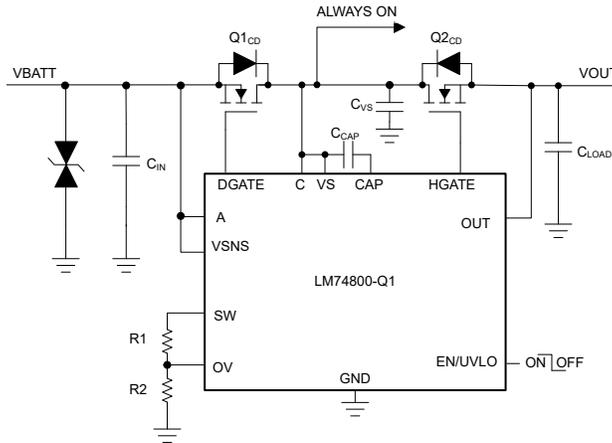

Figure 2. Common Drain Topology
LM74800-Q1 can drive FETs in two configurations: common drain (CD) and common source (CS). In CD topology, the drain terminals of both FETs are connected together as Figure 2 shows. When the LM74800-Q1 is in shutdown mode, the CD node can power critical always on loads through the body diode of Q1CD. When a reverse voltage is applied at the input, Q1CD turns off immediately, protects the CD node and loads at the output from being subjected to negative voltage. Since the CD node is always powered when the input voltage is positive, the VS pin can be directly connected to the CD node making the connections simple. The tradeoff for CD topology is that the CD node is always high due to the body diode of Q1CD even when the FET is turned off. As a result, it is not possible to check if Q1CD has failed short by measuring the voltage across the FET.